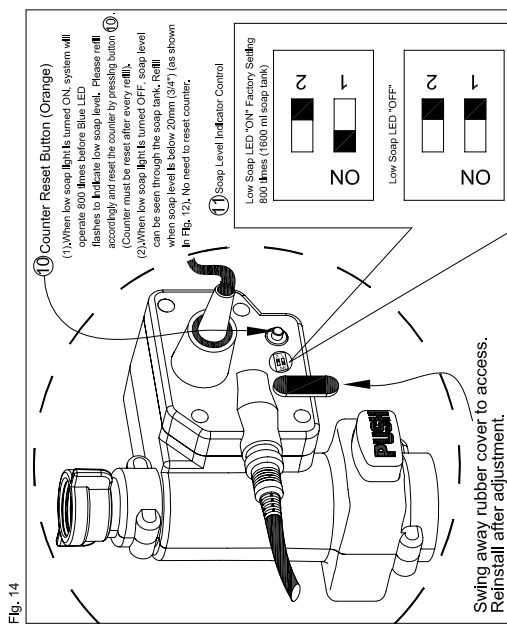

Fig. 14
8. When soap level indicator (8) is turned OFF (see Fig. 14), lower soap tank. Red LED will flash four times when level is approximately 20 MM(3/4") from bottom.
3. Low soap LED condition indicator can be turned ON or OFF (see Fig. 14). Factory setting is preset to ON.